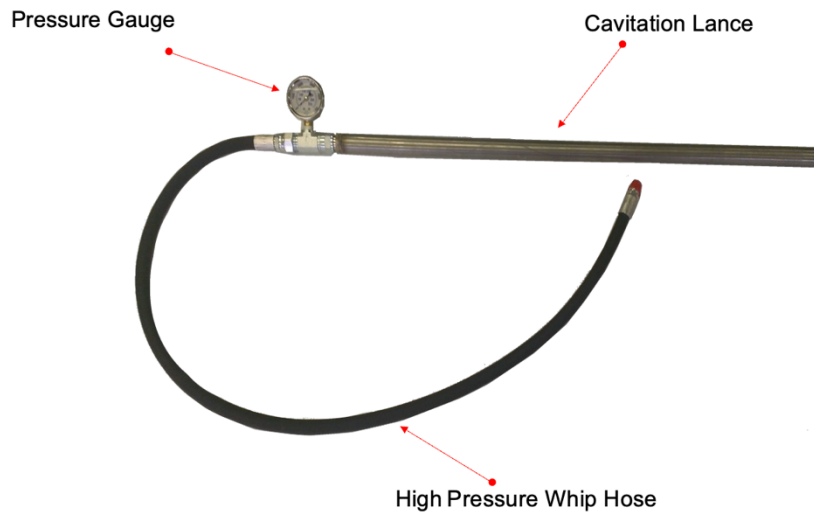

Figure 5.1 – Lance Pressure Calibration
3. Attach the calibration gauge between the main hose line and the lance and tighten the JIC connections (See **Figure 5.1**).
7. Hold the lance tight and observe the calibration gauge (See **Figure 5.1**).